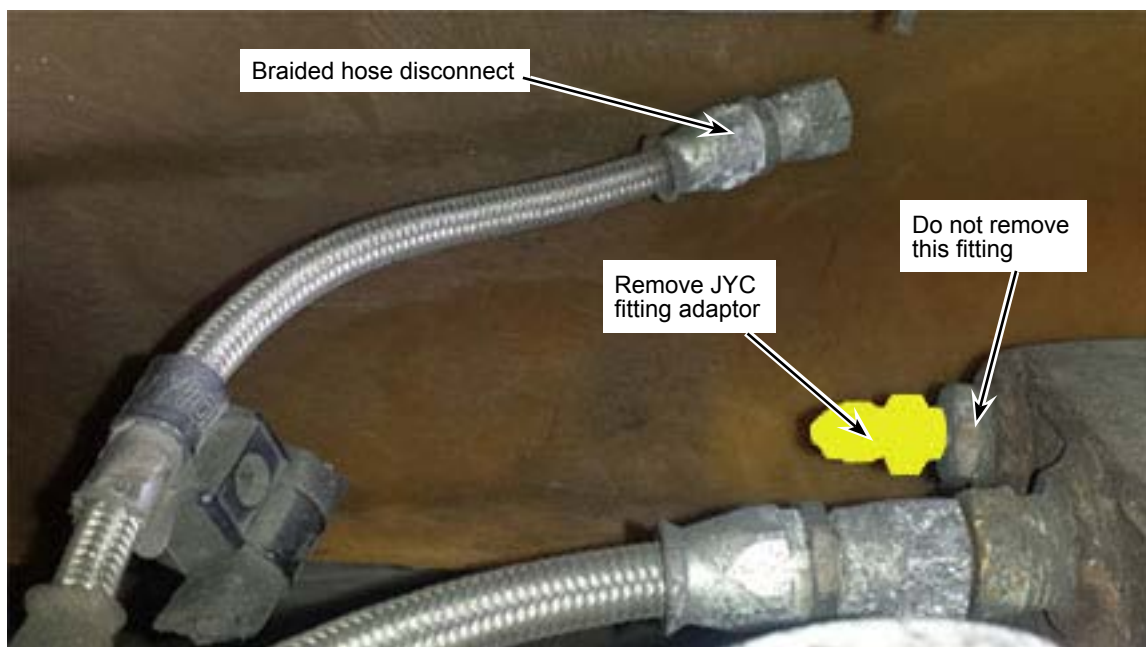

Figure 4 - Fitting to be Removed from Surge Tank
- 1.6. Disconnect the braided hose (located between the radiator and surge tank) from the surge tank. See Figure 4.
- 1.7. Remove the JYC fitting adaptor from the fitting on the surge tank. Two wrenches are required to perform this operation. See Figure 4.